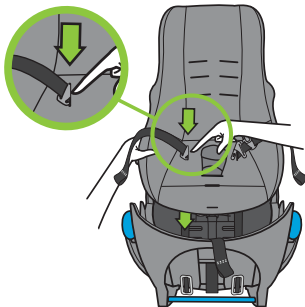

Figure 97
- Position Chest Clip so that end of Chest Clip is aligned with the hip strap opening, and push Chest Clip down through hip strap opening in Carrier Cover and Inner Carrier Shell, as shown in **Figure 97**.